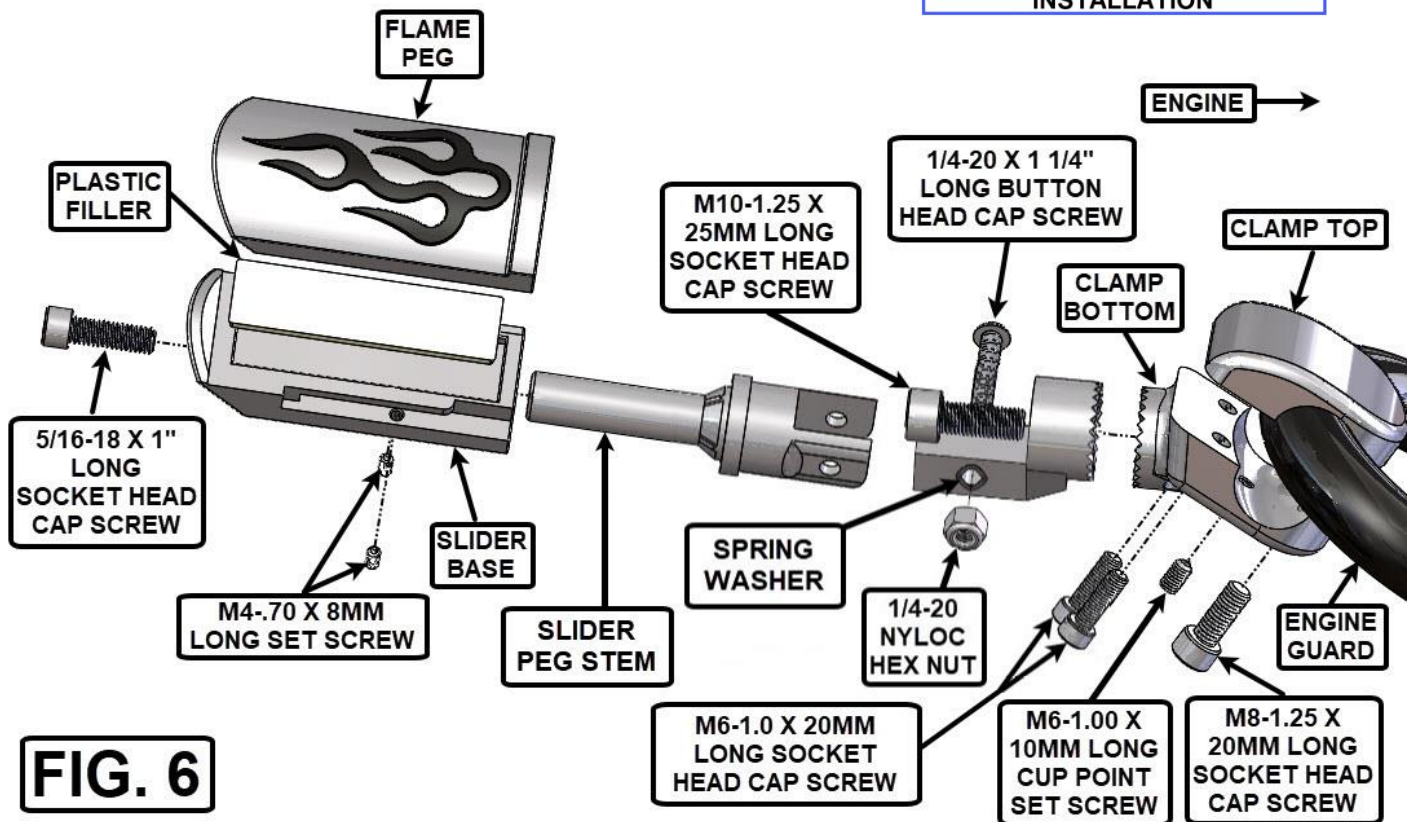

FIG. 6
- PLACE ONE OF THE CLAMP TOPS ON THE ENGINE GUARD AS SHOWN IN FIG. 6.
- REFERENCE FIG. 6 TO INSTALL THE CLAMP BOTTOM AND THE LEFT HIGHWAY PEG. (DO NOT TIGHTEN. CLAMP CAN MOVE FORWARD OR BACK SLIGHTLY TO ADJUST POSITION/ANGLE OF THE BOARD.) ONCE IT IS IN THE DESIRED POSITION, TIGHTEN ALL BOLTS, AND THE SET SCREW LAST.